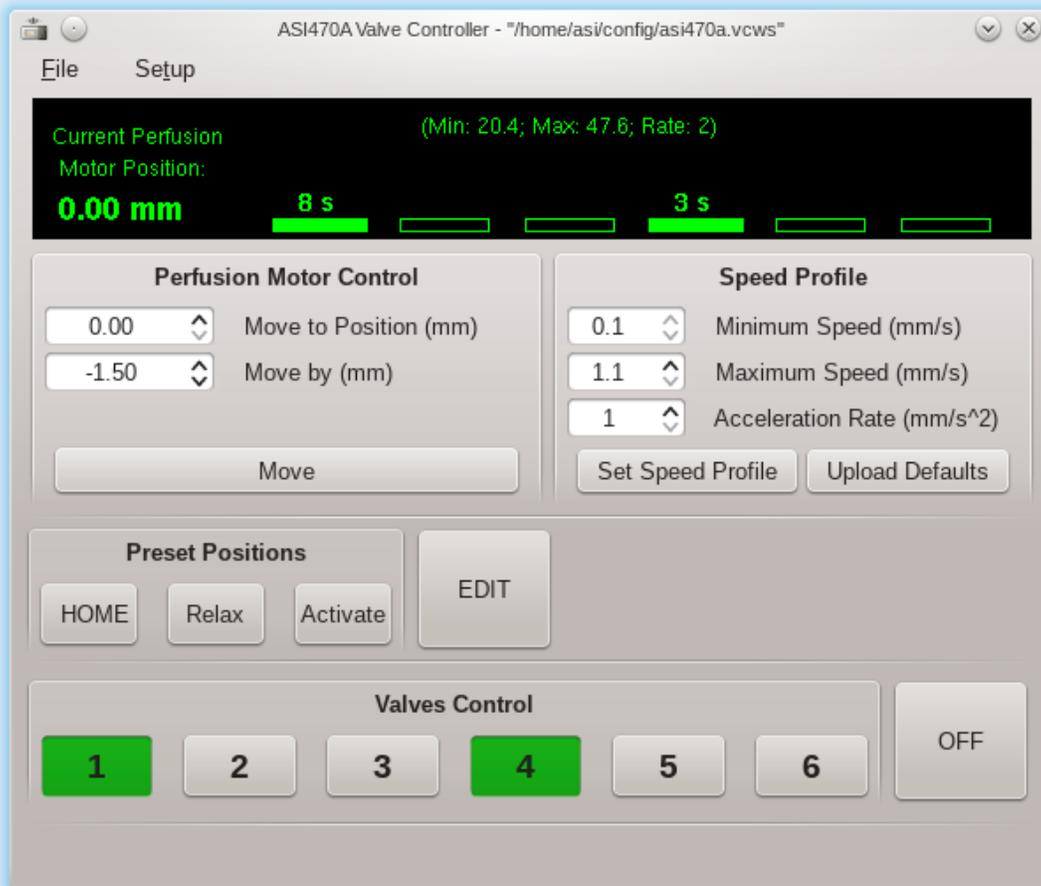

Figure 16 Valve Controller Window
6. Press the Home button on the Valve Controller window to set the perfusion motor to its home position, see Figure 16.
valve buttons on the Valve Controller window, see Figure 16. Keep track of the bubbles driven through the tubes by the fluid. Ensure all bubbles are removed from each tube. If you intend to use multiple activating solutions, then you must remove the bubbles from each valve line. To do this, turn on each of the valves, one at a time, to remove the air bubbles.